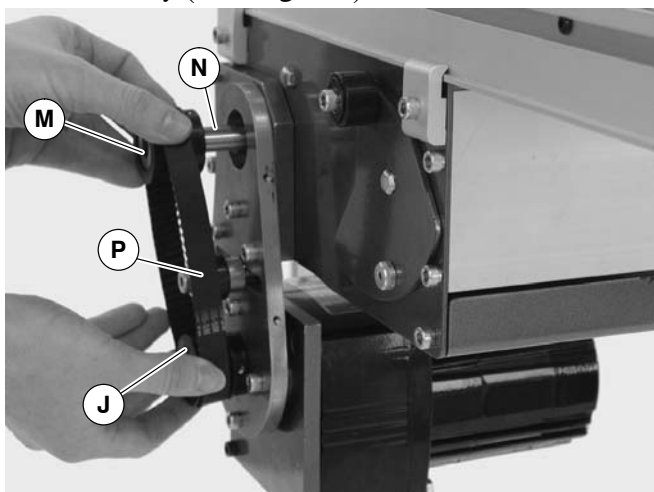

Figure 6
4. Install key (N of Figure 6).